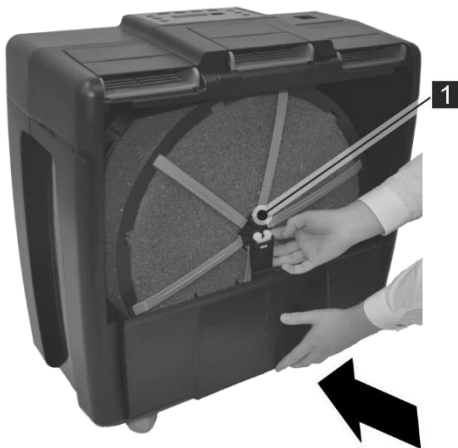

Fig. 18: Fixing the filter drum
3. → Press the water tank firmly in place and secure the hub of the water drum with the tank holder (Fig. 18/1).